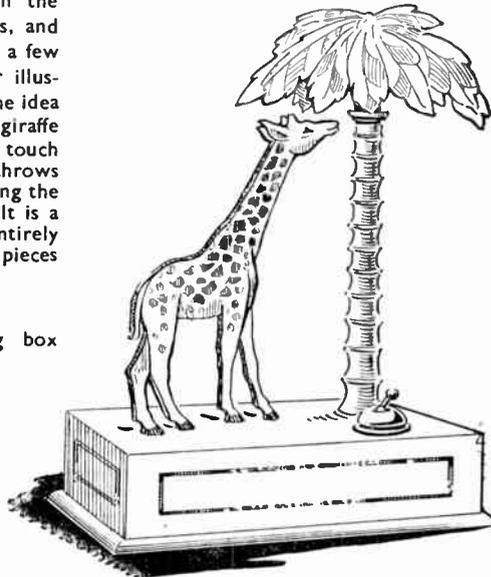

Fig. 1—The completed lamp with switch
HERE is another novelty in the way of electric table lamps, and one that can be made from a few pieces of wood and metal. Our illustration, Fig. 1, shows at a glance the idea of the lamp. A docile looking giraffe stands beneath a palm tree. At a touch of the switch below, it lights and throws a mellow green light around, making the animal stand out in bold relief. It is a simple piece of work, almost entirely made with the fretsaw from some pieces of $\frac{1}{2}$ in. wood.
In addition to this shaping, the 'tree' may be realistically carved to give the appearance of a palm, as depicted in Fig. 1. (E) and (F) are given full-size. This grooving work can be done with a half-round rasp and file and finished smooth with glasspaper. When the 'tree' trunk is completed, glue the tenons into the top of the box and allow to harden before proceeding further with the work.